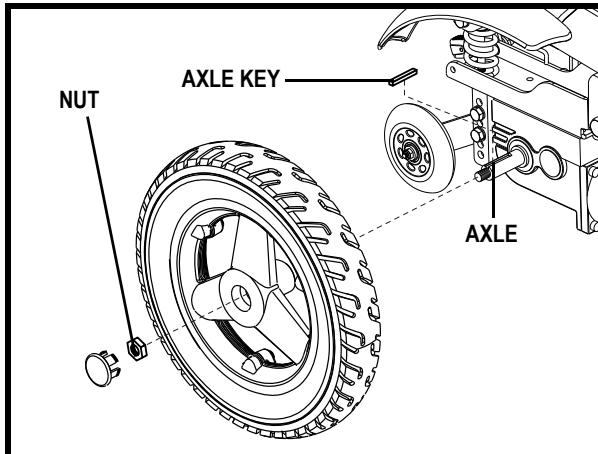

Figure 25. Artemis Drive Wheel
4. Remove the nut from the wheel hub. See figure 25.